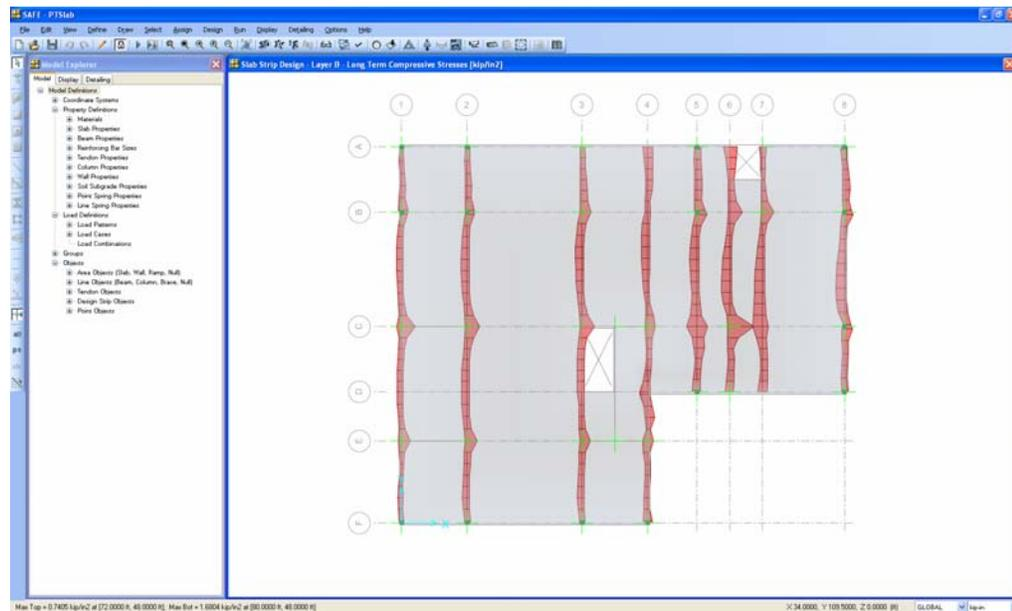

Figure 91 Layer B Long-Term Compressive Stresses
- K. Click the **OK** button to leave the Slab Design form and display the long-term compressive stress check results for the Layer B direction. The view will be updated to that shown in Figure 91. Again, positioning the cursor anywhere on the strips will result in the display of the stress check values in the lower left-hand corner of the SAFE window.